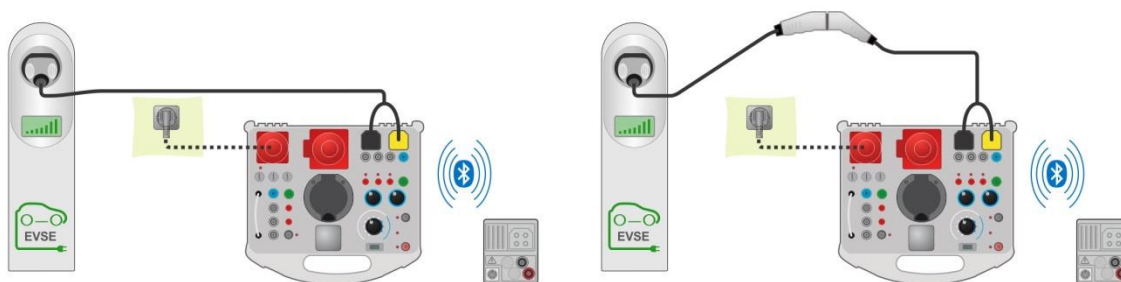
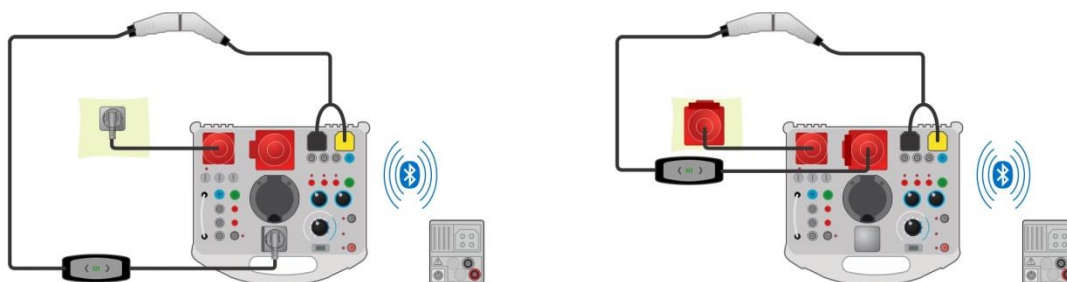
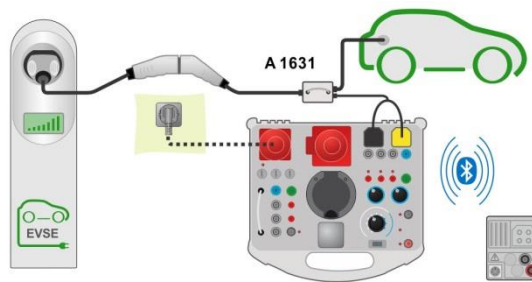

Figure 7.117: Diagnostic Test, EV simulator and Errors sub-tests - connection to EVSE
Figure 7.118: Diagnostic Test, EV simulator and Errors sub-tests - connection to Mode 2 charging cable powered from Analyser
Figure 7.119: Diagnostic Test (EVSE) - Monitor sub-test - connection to EVSE or charging cable
- Pair and connect MI 3152(H) with A 1632 eMobility Analyser instrument via Bluetooth communication. See chapter 4.6.5.1 Selection and configuration of measuring adapters.
- Check Bluetooth communication active sign if A 1632 eMobility Analyser is connected to MI 3152(H) instrument via Bluetooth communication.
- Connect the charging cable / station to A 1632 eMobility Analyser adapter. See **Figure 7.117, Figure 7.118 and Figure 7.119**. Refer to **A 1632 eMobility Analyser Instruction manual** for detailed information.